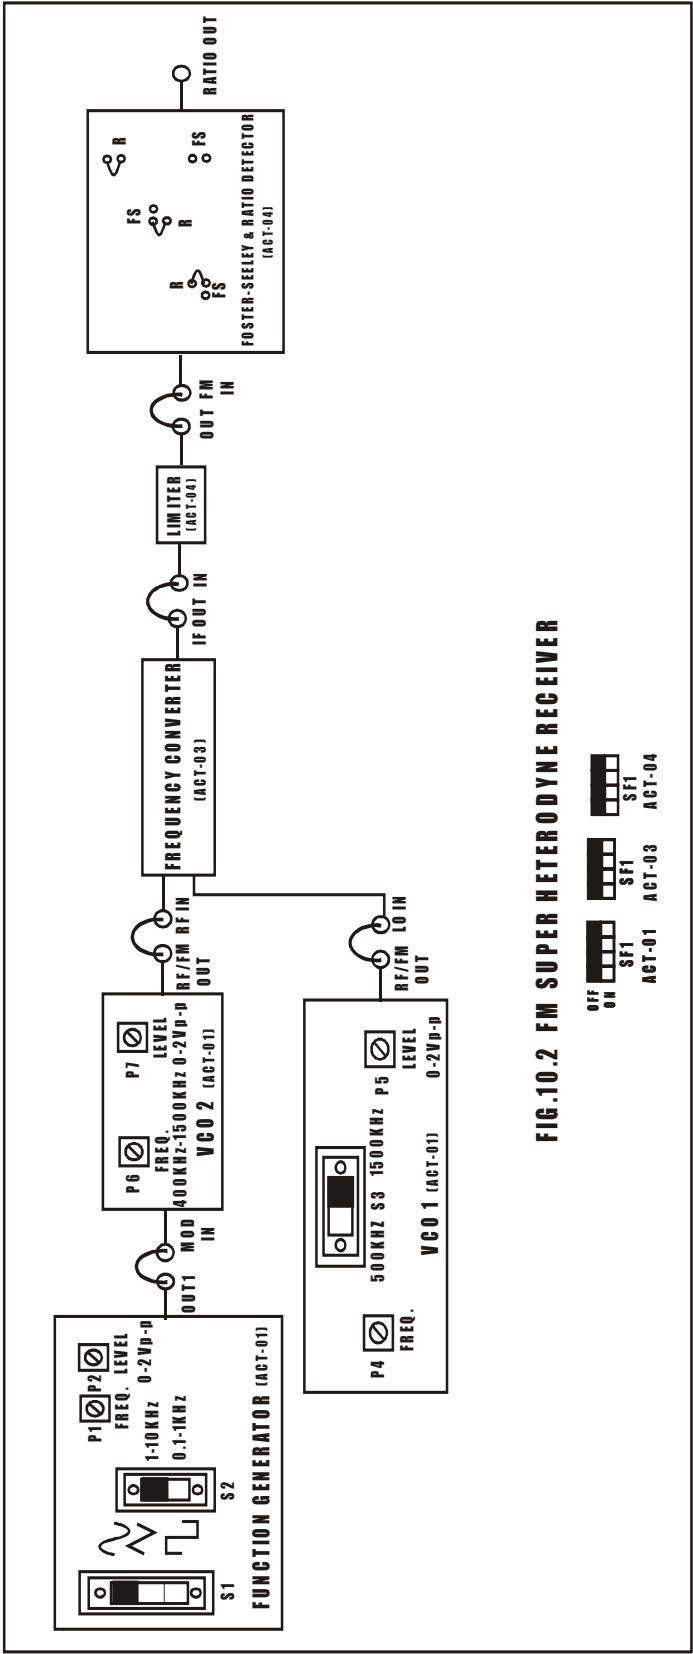

FIG.10.2 FM SUPER HETERODYNE RECEIVER
- Refer to the fig.10.2 & Carry out the following connections and switch settings.